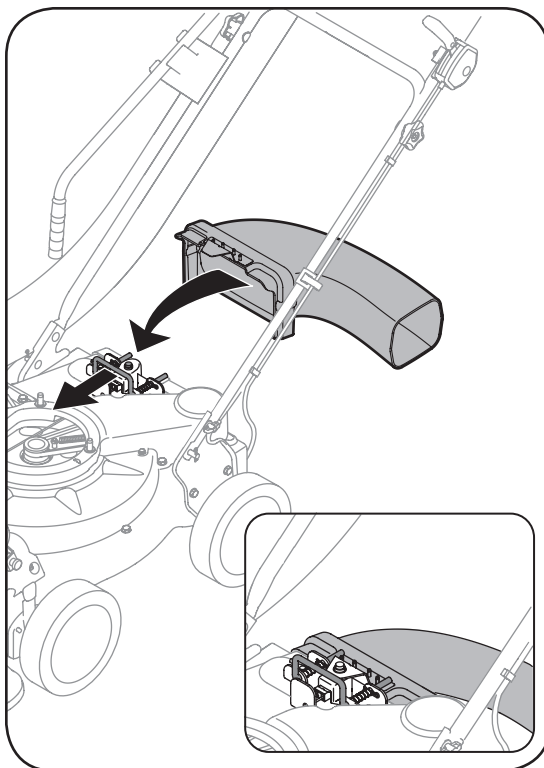

Figure 3-8
- a. Grasp blower chute with one hand and slide locking rod on mounting bracket with other hand toward engine. Use the end of mounting bracket as leverage when sliding the locking rod. See Figure 3-8.
1. Grasp blower chute with one hand and pull lock rod on mounting bracket with other hand toward engine to release. Refer to Figure 3-8 in SETTING UP YOUR CHIPPER SHREDDER VACUUM.